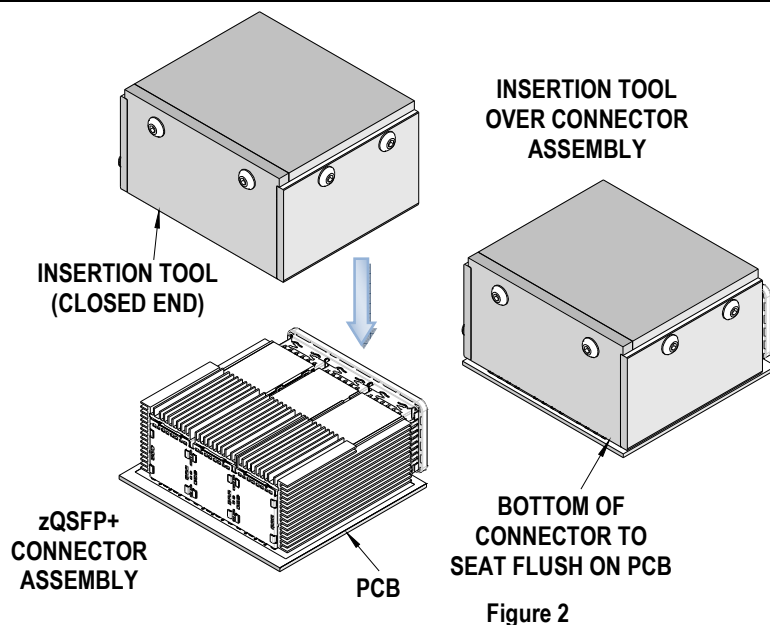

Figure 2
2. Place the tool on the connector assembly (closed end to the back end of the connector). See Figure 2.